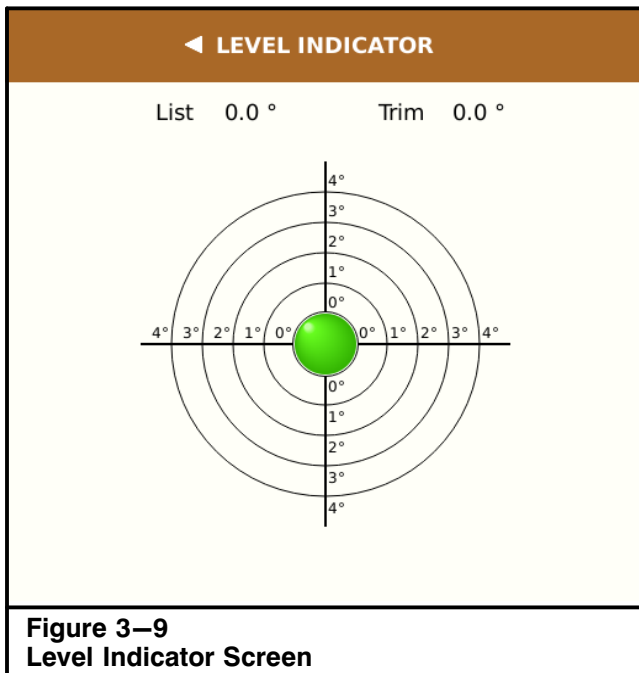

Figure 3-9
5. Once the bubble level is adjusted, verify the level indicator screen on the pulse crane control system display indicates a level reading. Refer to "Level Indicator" in Section 1 of this Operator's Manual to navigate to the level indicator screen. If the level indicator screen is not indicating that the crane is level, the inclinometer must be calibrated. Contact your Link-Belt distributor to calibrate the inclinometer. Refer to Figure 3-9.